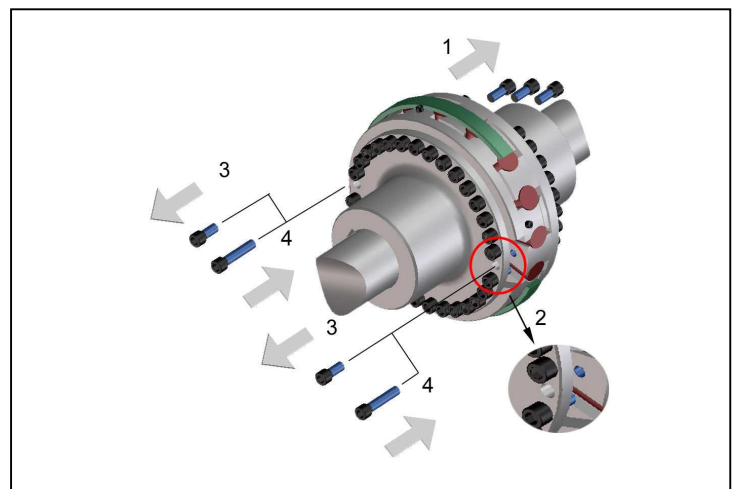

Fig. 12
- Loosen the screws (Fig. 12, Pos. 1) at the circumference of the retaining ring and push the ring backward (Fig. 12, Pos. 2).
- Take out the elastic buffers (Fig. 12, Pos. 3).
- Remove all the cheese head screws from one coupling half (Fig. 12, Pos. 1). This separates the claw ring from the flange hub.
- Remove the cheese head screws from the other coupling half which are located opposite the front side threads in the claws of the loosened ring (Fig. 12, Pos. 2 and 3).
- Use longer clamp screws (Fig. 12, Pos. 4) to axially remove the loosened claw ring from its centering seat. Make sure there is a gap between the claw ring and the flange hub so that these parts no longer contact each other.